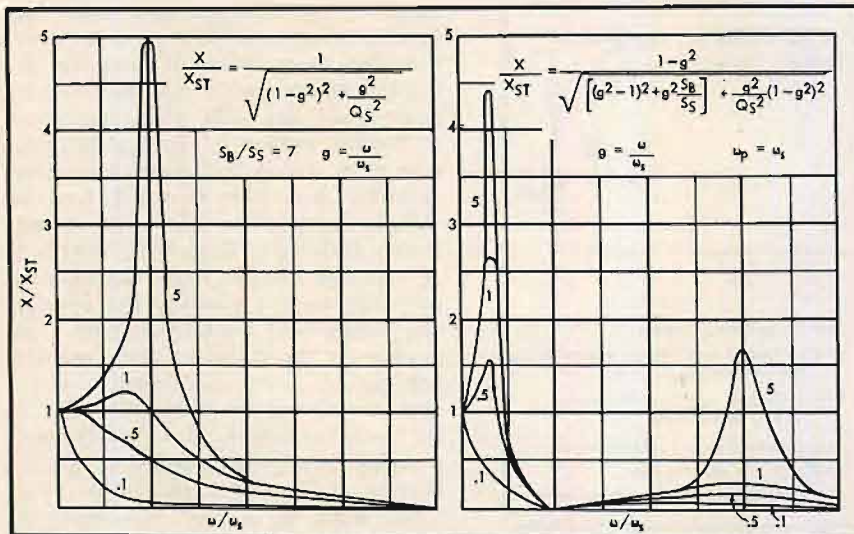

Fig. 5. Excursion of direct radiator speaker as a function of Q . (A) closed box, infinite baffle, or free air operation assumed, and (B), in vented enclosure.
is shown in (A) of Fig. 5.
(A) in Fig. 5 also shows that the excursion gets quite high in the region of resonance and below.